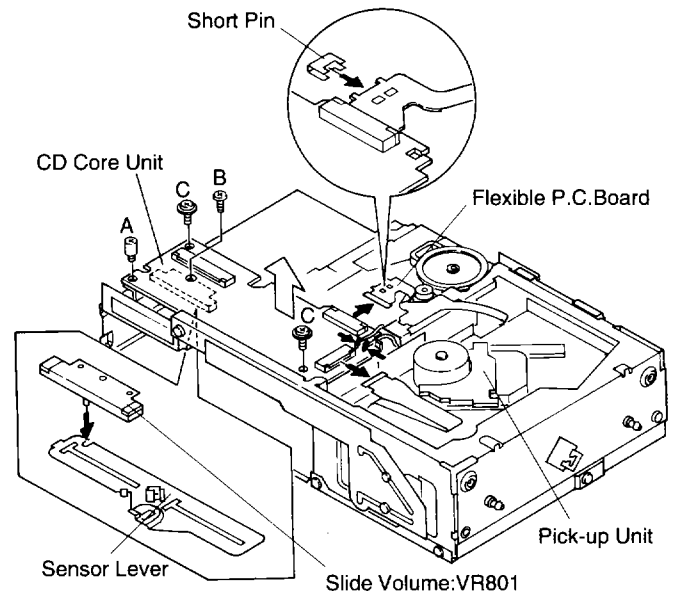

Fig. 2
1. Attach the Short Pin onto the Flexible P.C.Board of the Pick-up Unit.(Fig.2)
2. Remove the Flexible P.C.Board from the connector.(Fig.2)
● Removing the CD Core Unit (Fig.2)